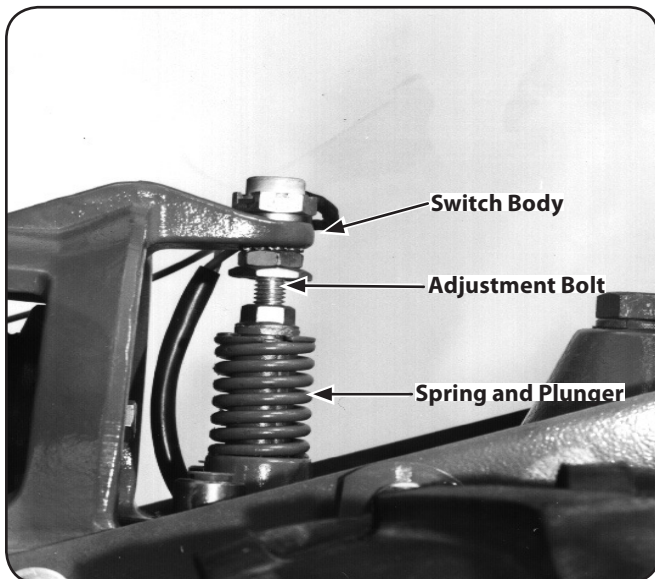

Figure 6-19
When the Wheels/Tines/PTO Drive Lever is moved up into REVERSE, the engine and engine mount move down to press on the reverse adjustment bolt. See Figure 6-19.
The spring and plunger assembly is designed to prevent the reverse disc from making contact with the transmission pulley until you shift into REVERSE. When the lever is in NEUTRAL, the switch body on the bottom of the engine mount tab should be resting squarely on top of the reverse adjustment bolt. See Figure 6-19. The reverse adjustment bolt can be adjusted up or down to correct a number of reverse drive operating problems, as explained next.
6. Move the Wheels/Tines/PTO Drive Lever to NEUTRAL. The switch body on the bottom of the engine mount tab should be resting squarely on top of the reverse adjustment bolt, and the reverse disc should be at least $\frac{3}{16}$ " away from the transmission drive pulley. See Figure 6-19. If the reverse disc is any closer than this, raise the reverse adjustment bolt (turn it counterclockwise).